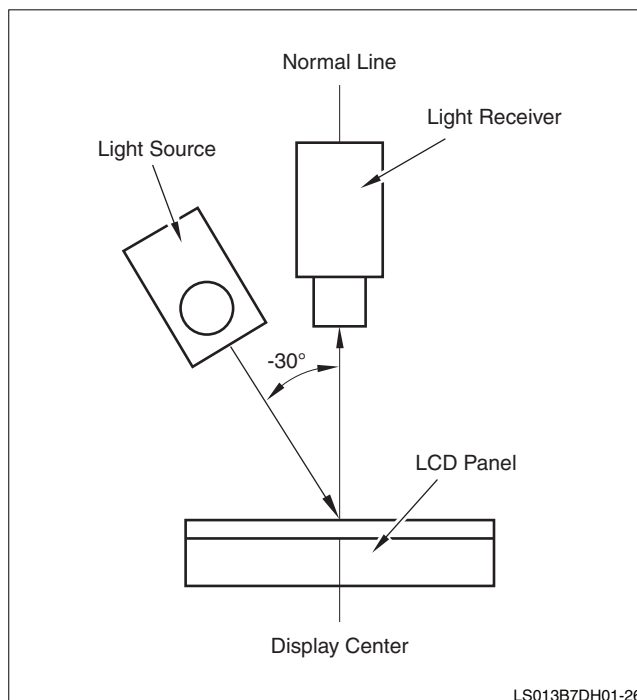
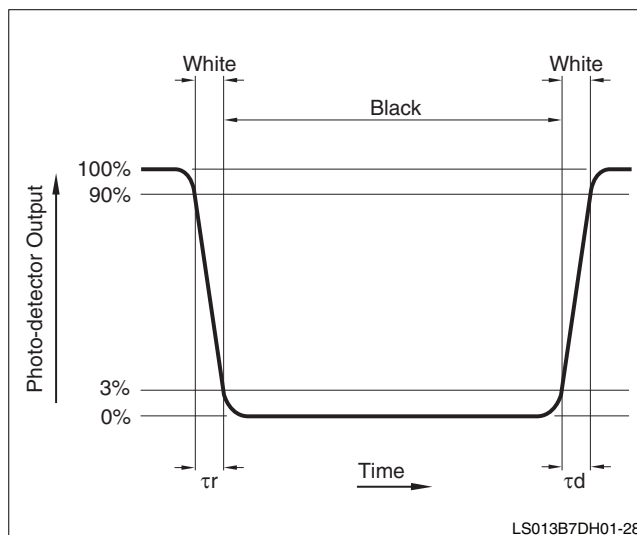

Figure 5. Setup for Response Time
Figure 6. Response Time
3. Response Time is measured by the change interval in an optical receiver when the test panel's signal is transitioned from white to black to white. See Figure 5 for the measurement setup and Figure 6 for the output waveshape.